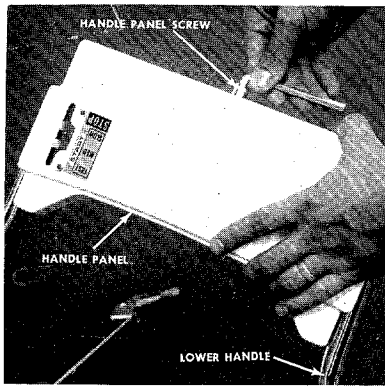

FIGURE 4. HANDLE PANEL ASSEMBLY
4. Place the handle panel over the lower handle and fasten with the handle panel screw using a 5/16" wrench. See figure 4.